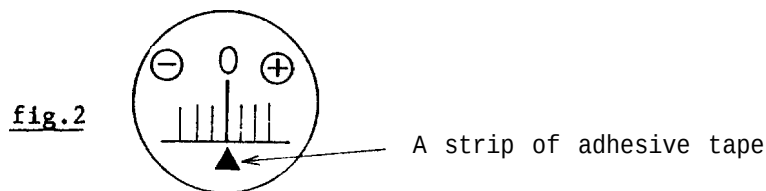

fig.2
1. Set the camera as shown in figure 2, p.16
- 1) Connect the remote terminal of DX-1 to a voltmeter with Tool remote cord J18153. (fig.2)